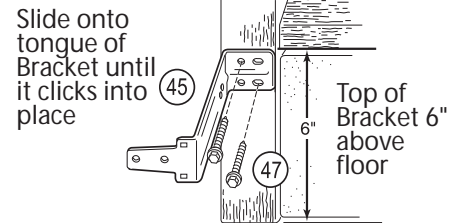

Figure 24 Install Safe-T-Beams®
- A** Install Safe-T-Beam® Source and Sensor (**Figure 24**):
- B** Attach Safe-T-Beam® Source (Red LED) and Sensor (Green LED) to Brackets (**Figure 24**):